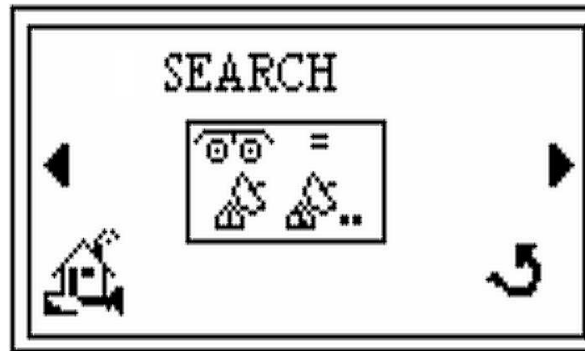

Figure 2-22 Search Screen
5. Press the  and the *Search* screen appears (Figure 2-22).